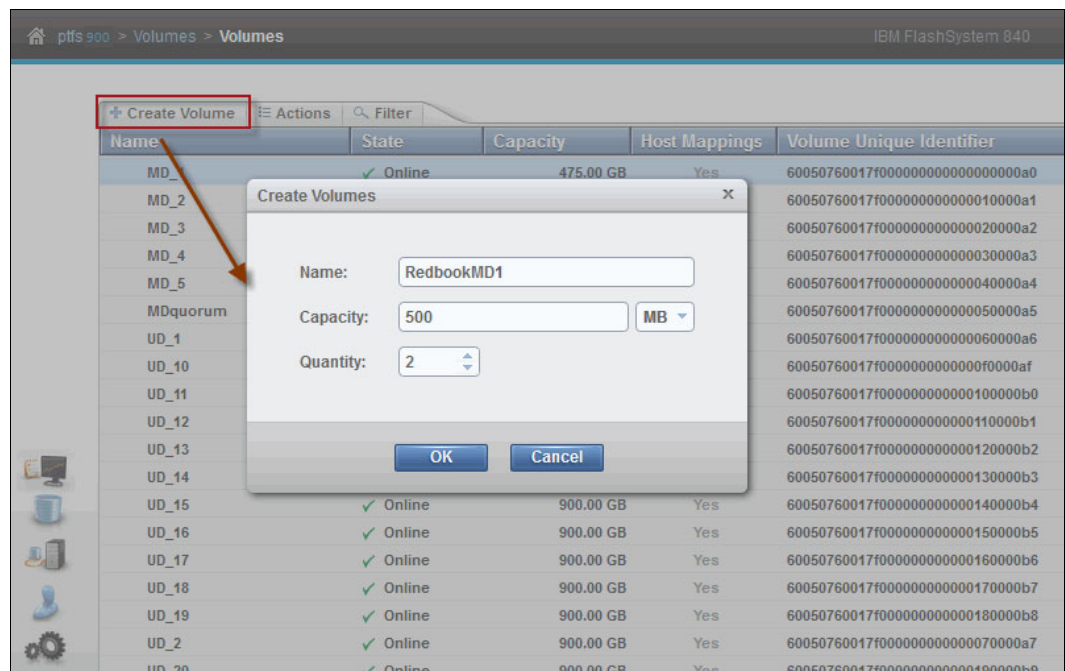

Figure 8-4 Creating volumes on the IBM FlashSystem 900
4. Provide the details for the new volume: Name, Capacity, and Quantity (Figure 8-4).